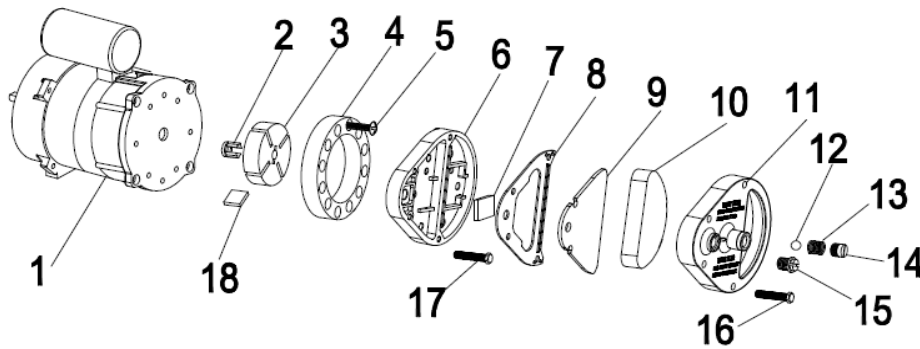

Fig.3
Clean air filters. Remove filter end cover (11), wash air intake filter (10) using a light detergent and dry it thoroughly before reinstalling. Replace air delivery filter (9) once a year (Fig.3)